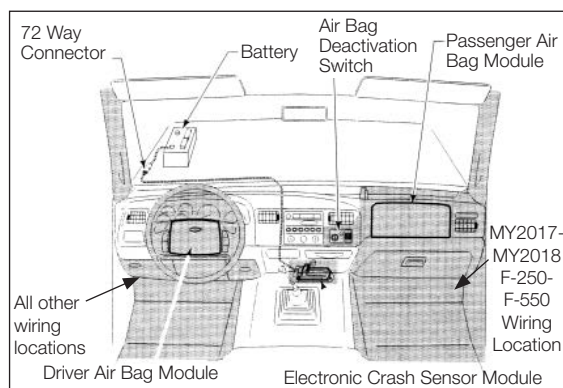

Figure 8
2. Locate a position in the cab for mounting the PTO switch and mounting bracket. The shaded area in (Fig. 8) shows the Occupant Protection Zone of the deployed air bags that are available in these vehicles.